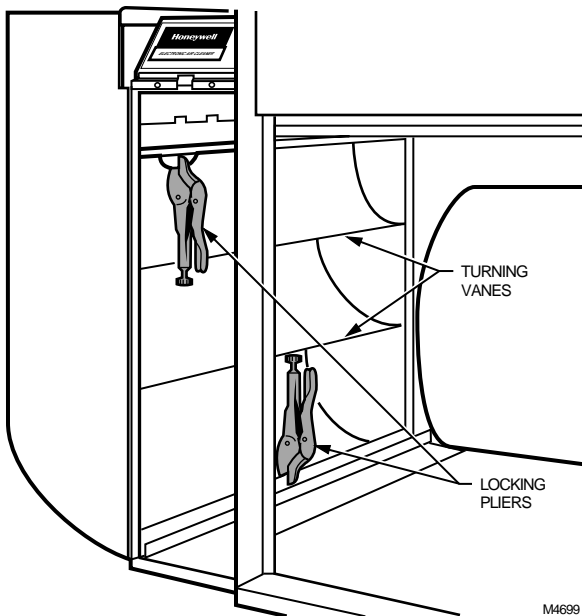

Fig. 20. Connect ductwork to air cleaner. Note turning vanes. Locking pliers hold duct to air cleaner cabinet during installation.
- Attach the cabinet securely to the furnace. The unit can be attached directly, as shown, or a starting collar can first be fitted in the furnace opening. Either drill holes and fasten with sheetmetal screws or rivets, or use slip joints. If you are drilling holes, locking pliers help to hold the unit in place during drilling. See Fig. 20.